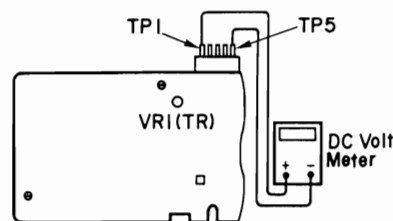

Figure 21
1. Remove the bottom cover according to disassembly instructuin (B).
2. Insert the test connector to the 5-pin plug (CN4) of the Control P. C. Board and connect a DC voltmeter between TP1 and TP5 of the test connector as shown in Figure 21.